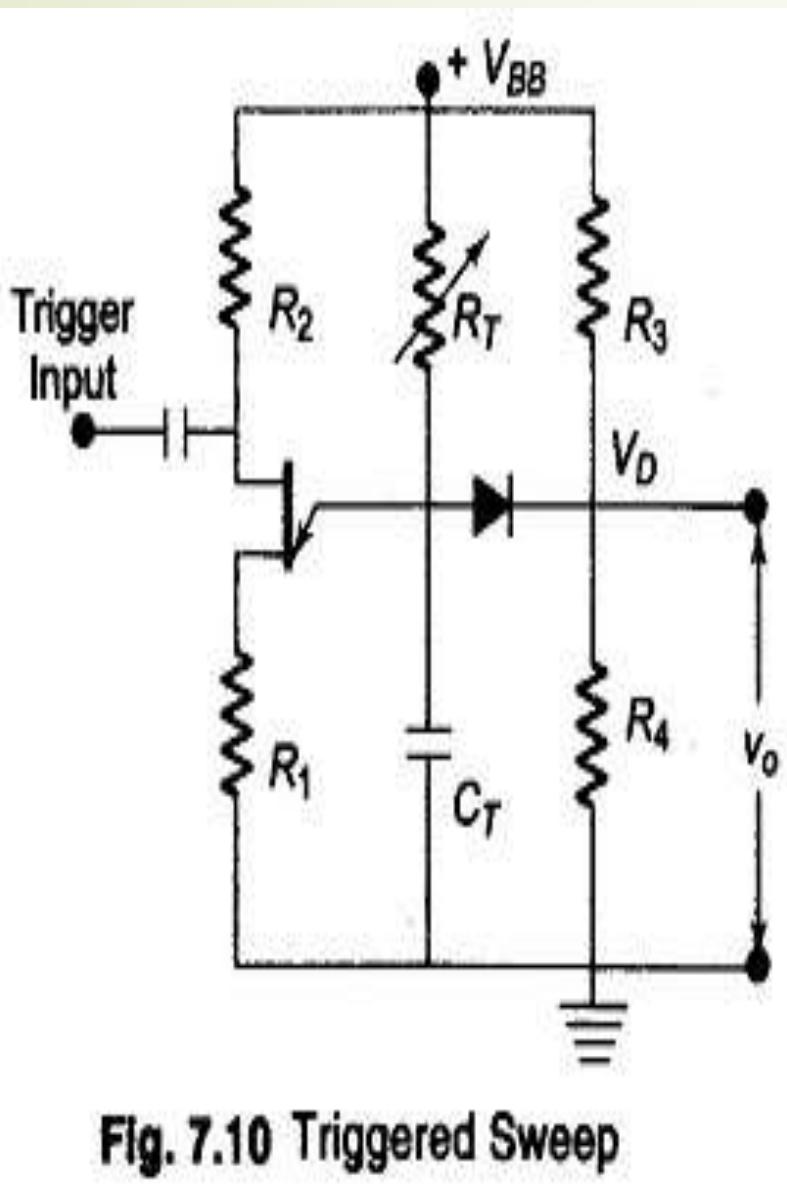

Fig. 7.10 Triggered Sweep
- ▶ As shown in Fig. 7.10, resistance R_3 and R_4 form a voltage divider such that the voltage V_D at the cathode of the diode is below the peak voltage V_P for UJT conduction.